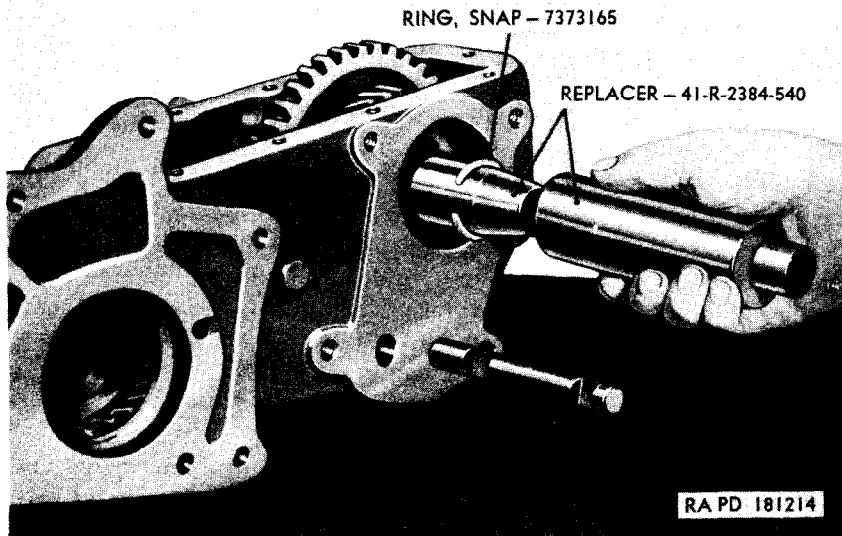

Figure 78. Installing thrust washer snap ring on transfer rear axle output shaft.
c. *Install Rear Axle Output Shaft Driven and Sliding Gears* (fig. 73). Place the rear axle output shaft sliding gear (HH) in the transfer case (U) with the rear axle output shaft sliding gearshifter fork in the channel of the sliding gear. Insert the rear axle output shaft driven gear (GG) in transfer case with shoulder of driven gear facing sliding gear. Insert the rear axle output shaft into the transfer case and through the bores of the sliding and driven gears. Slide the rear axle output shaft thrust washer (FF) onto the shaft. Slide thimble of replacer 41-R-2384-540 over inner end of rear axle output shaft and slip thrust washer snap ring (fig. 78) over small end of thimble. Position large end of replacer 41-R-2384-540 over end of thimble until it contacts thrust washer snap ring. Push snap ring over thimble and onto rear axle output shaft until it falls into groove of shaft.